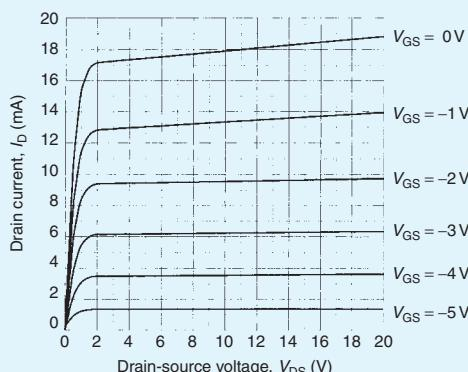

Figure 12.28
7. The output characteristics of a JFET are shown in Fig. 12.28. If this device is used in an amplifier circuit operating from an 18 V supply with a gate-source bias voltage of -3 V and a load resistance of 900Ω , determine (a) the quiescent values of drain-source voltage and drain current, (b) the peak-peak output voltage when an input voltage of 2 V peak-peak is applied, and (c) the voltage gain of the stage.